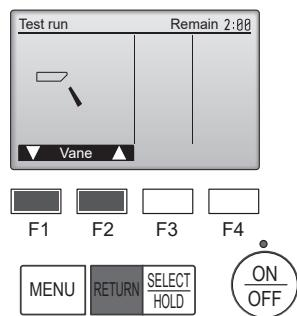

Fig. 6-6
- ① Check the auto vane with the [F1] [F2] buttons. (Fig. 6-6)
- ② Press the [RETURN] button to return to "Test run operation".
- ③ Press the [ON/OFF] button.